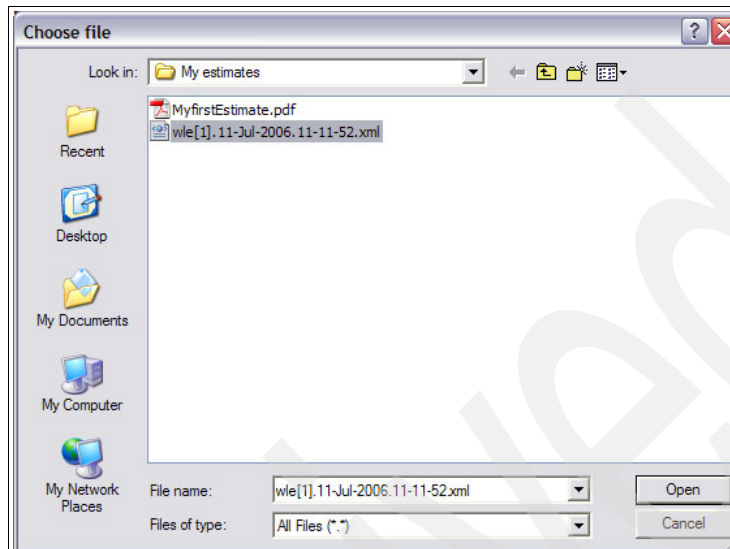

Figure B-27 Browse to existing WLE file
3. In our example shown in Figure B-27 we see the wle .xml file. We selected this file and clicked **Open**.